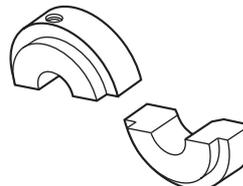

Fig. 39
2) Liners for flaring (Fig. 39)